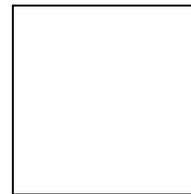

Figure 7
3. Insert the tool rest into it's holder as shown in Figure 7 and when the desired position is found, lock into place with handle A.